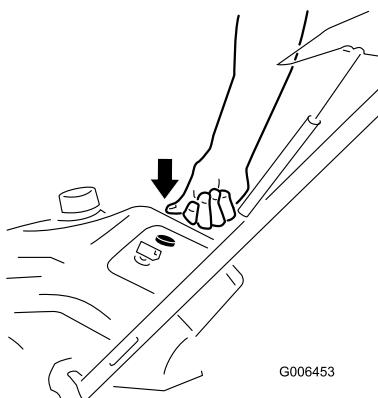

Figure 16
3. Firmly push in the primer 3 times with your thumb, holding the primer in a for a second before releasing it each time (Figure 16).